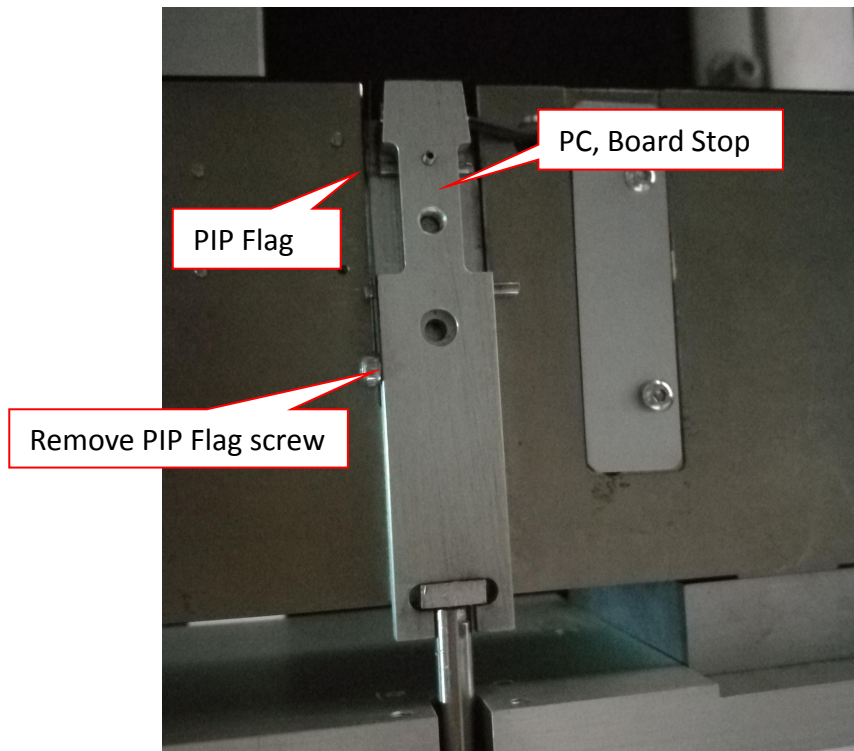

Figure 1 PIP Flag removal
4. Use 2.5mm Hex Wrench to remove PIP Flag screw & PIP Flag as shown in Figure 1.